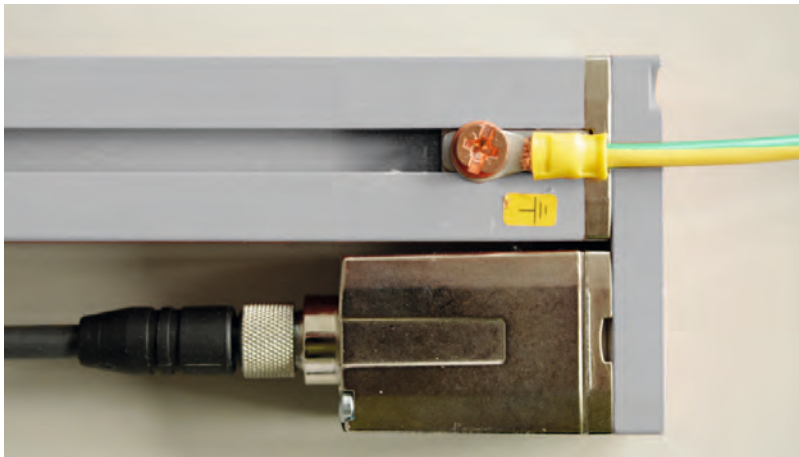

Figure 7.1: Connecting the ground potential to the light curtain
- ✎ Connect the transmitter housing **and** receiver housing of the light curtain to the protective conductor on the FE machine star point via the PE screw on the grounding slot nut (see figure 7.1).